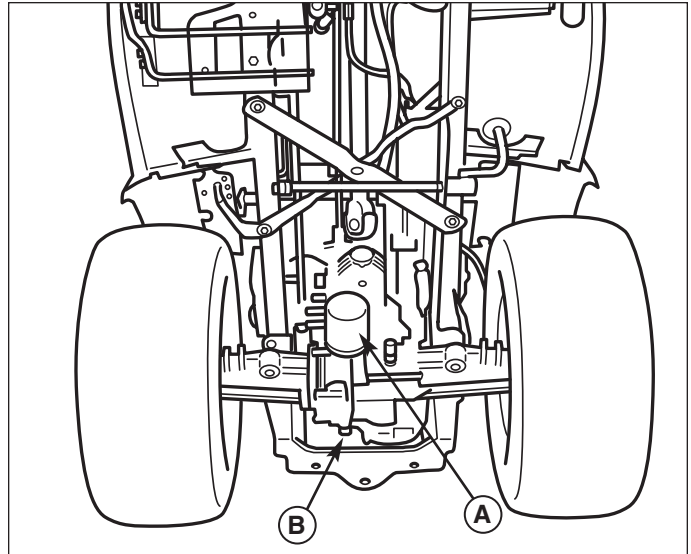

Figure 26. Transmission
1. Drain hydrostatic system by removing the 17mm drain plug (B, Figure 26).
2. Clean the base and replace the filter (A, Figure 26) using an appropriate filter wrench. Reinstall the drain plug.